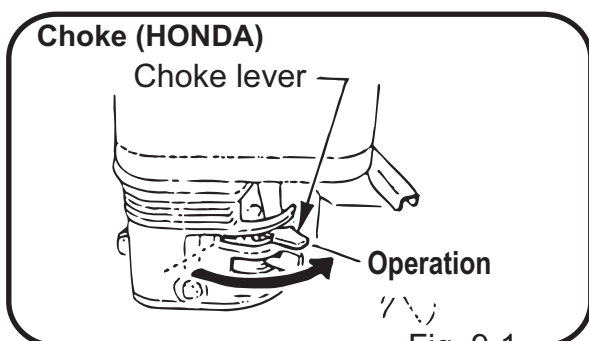

Fig. 9-1
- 5 When the engine has started, return the speed control lever to the low speed position immediately. Listening to the sound of the explosion, return the choke lever gradually to the fully open condition. (Fig.9-1 & 9-2)